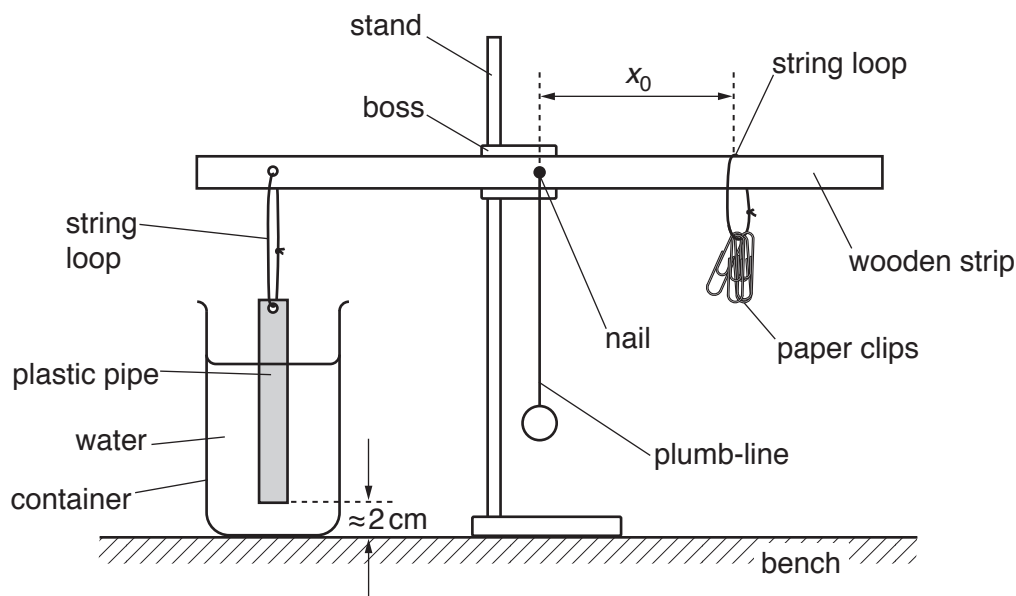

Fig. 2.1 (not to scale)
- (a) Assemble the apparatus as shown in Fig. 2.1. The nail should pass through the hole in the wooden strip and be held in the boss. The bottom of the plastic pipe should be approximately 2 cm above the bottom of the container.
The distance from the nail to the string loop holding the paper clips is x_0 , as shown in Fig. 2.1.